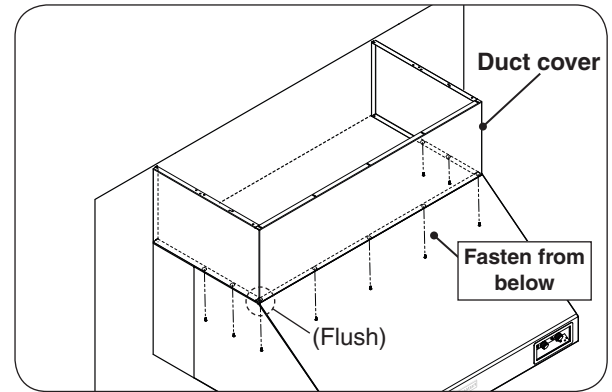

Fig. 19-1 Install Fire Magic Duct Cover
1. Carefully slide the duct cover into the area above the already installed spacer and vent hood. Ensure the bottom perimeter of the duct cover rests flush with the spacer and vent hood. See Fig. 19-1.
2. From beneath the vent hood, use a medium Phillips screwdriver and the 8-32 x 3/8" screws supplied with the duct cover to secure it to the vent hood. (The screws are to be fastened through the pilot holes found on top of the vent hood and into the duct cover above.) See Fig. 19-1.